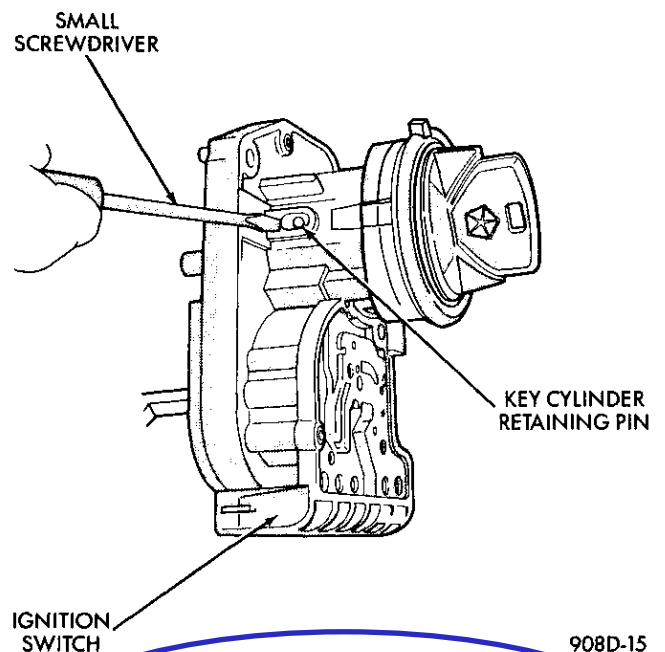

Fig. 3 Key Cylinder Retaining Pin
- (a) With the key inserted and the ignition switch in the lock position, proceed as follows: Use a small screwdriver to depress the key cylinder retaining pin flush with the key cylinder surface (Fig. 3).